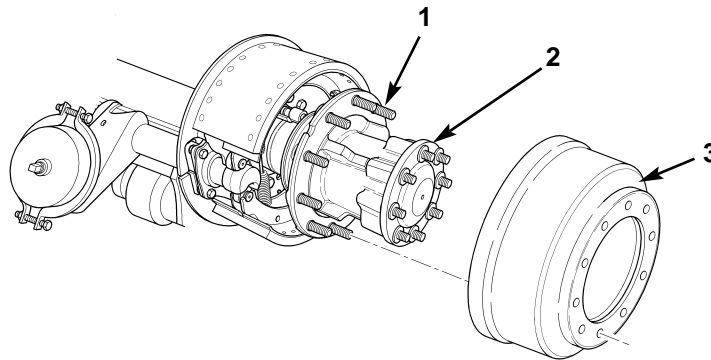

Figure 19. Installing Rear Brake Drums.
34. Carefully slide rear brake drum (figure 19, item 3) over wheel studs (figure 19, item 1) on rear hub (figure 19, item 2).